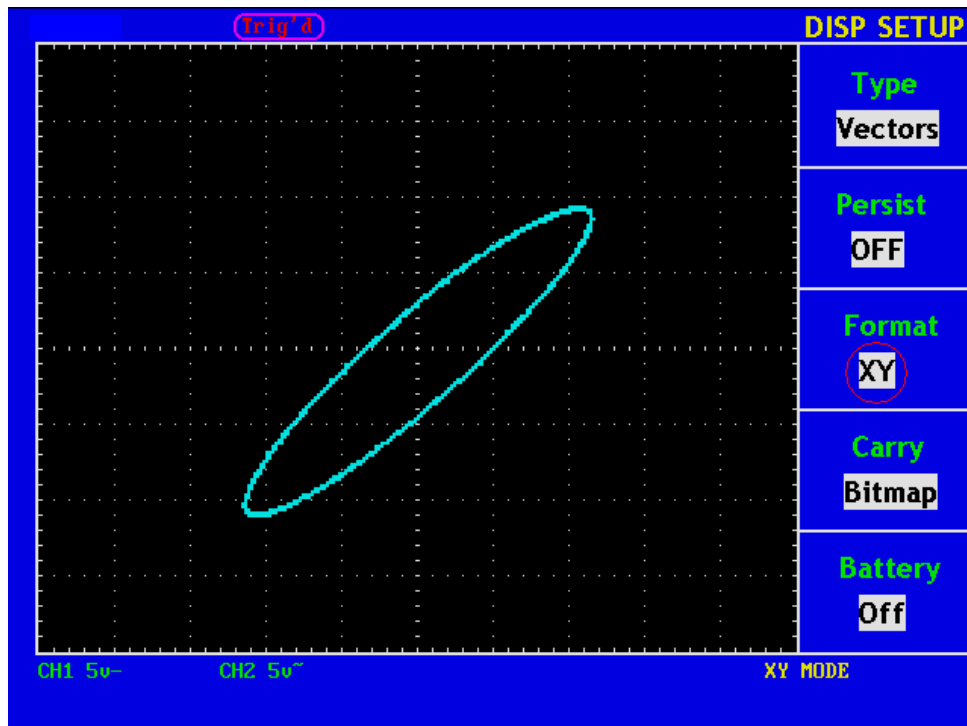

Fig. 49 XY Display Mode
2. Press the **F3** menu selection button and choose the form as XY. The display format is changed to be XY mode (see Fig. 49).